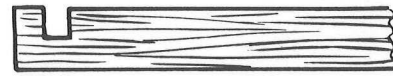

Figure 95
The cut in piece (B) (for $\frac{3}{4}$ " lumber) is a $\frac{1}{4}$ " dado. (See Figure 95.)